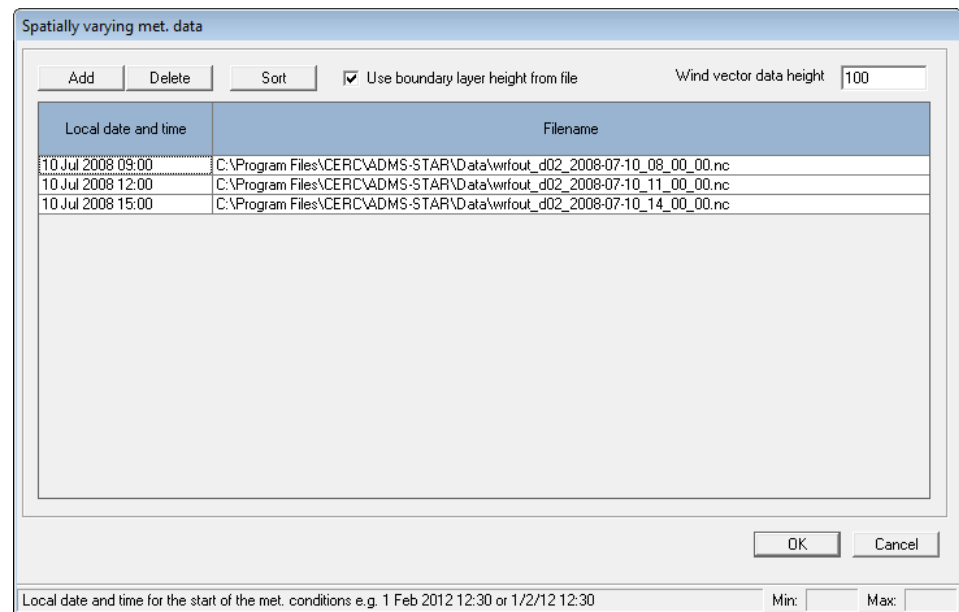

Figure 7.30 - Example 4: the **Spatially varying met. data** sub-screen
- Step 9** Move to the **Meteorology** screen. Choose the **Spatially varying met. data from files** option and click **Edit...** to display the **Spatially varying met. data** sub-screen. In turn, use the **Add** button and the drop-down arrow in the **Filename** field to add the WRF output files *wrfout_d02_2008-07-10_08_00_00.nc*, *wrfout_d02_2008-07-10_11_00_00.nc* and *wrfout_d02_2008-07-10_14_00_00.nc* to the table. All three files can be found in the *Data* sub-directory of your ADMS-STAR install directory. Enter the **Local date and time** for each file as shown in **Figure 7.30**. Tick the **Use boundary layer height from file** option. Click **OK** to return to the **Meteorology** screen.